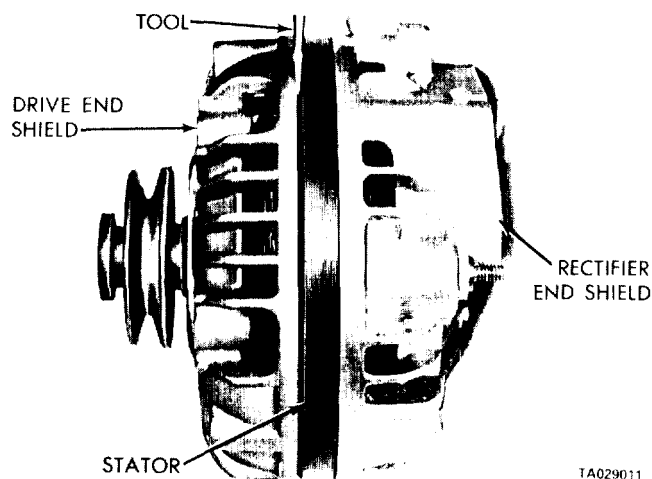

Figure 14-2. Separating Drive End Shield from Stator.
(2) Remove the through bolts and pry between the stator and the drive end shield with the blade of a screwdriver (figure 14-2). Carefully separate the drive end shield, pulley, and rotor assembly from the stator and rectifier end shield assembly.